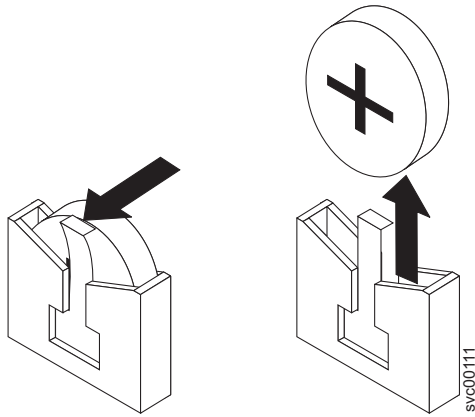

Figure 136. SAN Volume Controller 2145-8F2 or the SAN Volume Controller 2145-8F4 CMOS battery holder
- a. Use one finger to pull the retainer tab, which is shown in Figure 136 on page 145, that secures the battery to its housing.